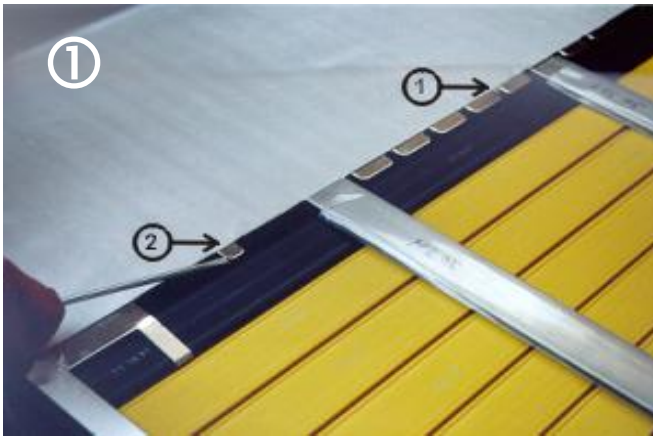

Figure 17 - Maintenance / Contact replacement I
- Lift up PVC profile (4) and pull out damaged contact strip (11) with the cable from the tube (10).
- Introduce new contact strip in the PVC tube and place the contact system correctly. Unsolder the two (or three) tape switches (Figure 17 / page 13).
| Figure 17 - Maintenance / Contact replacement I..... | 13 |